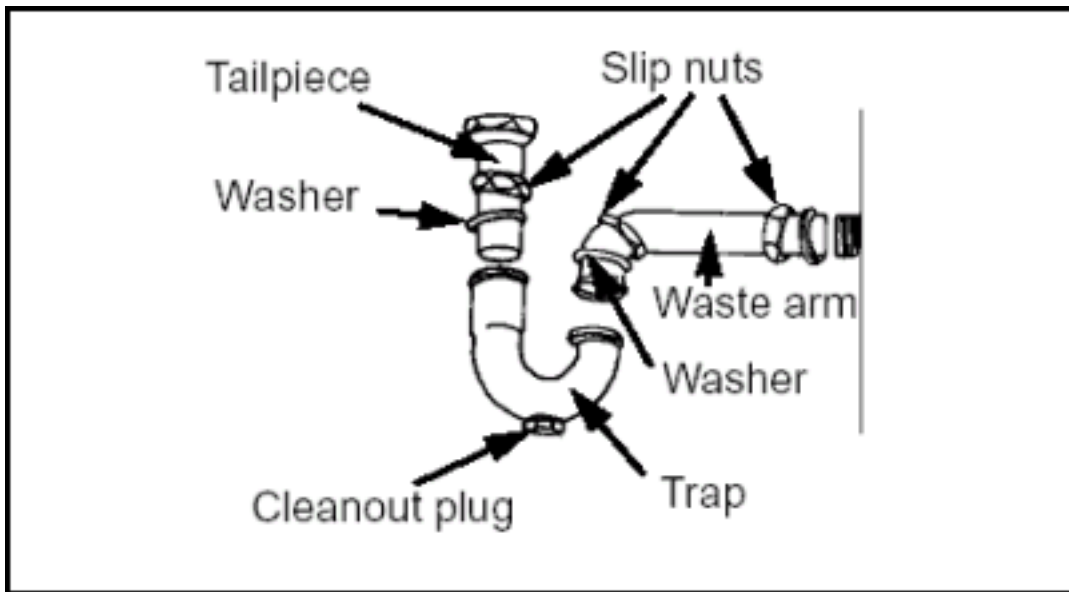

Figure 4-14. P-Trap Connection
Step 4. Connect the P-trap between the rough-in waste outlet and the tailpiece (Figure 4-14). All connections should be made with washers and slip nuts to form leakproof joints.